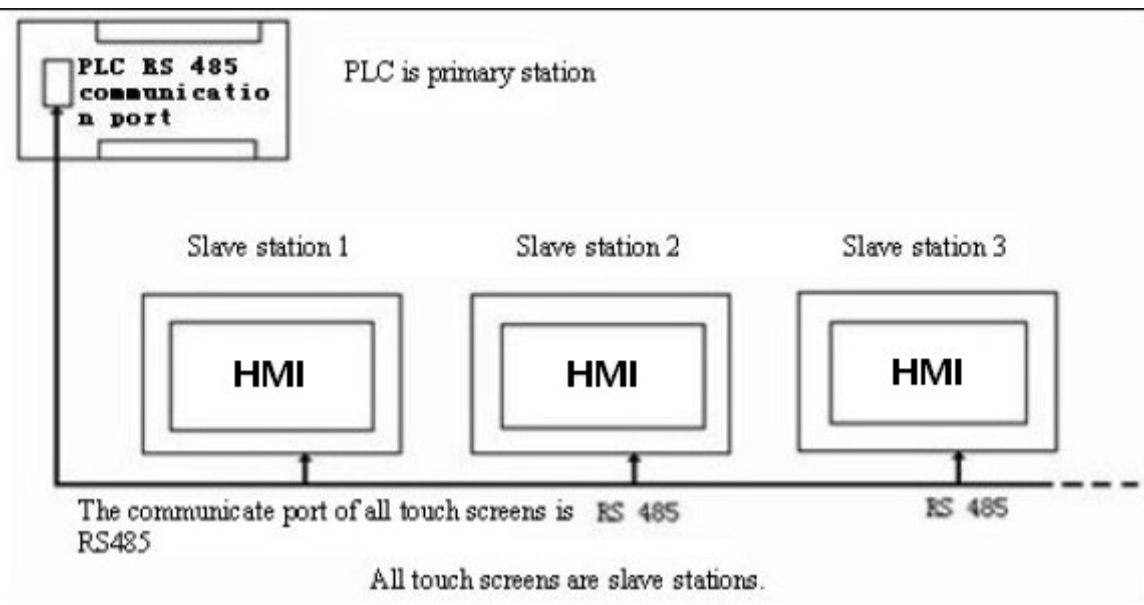

Figure 8-4 Sketch map of "One machine with multiple machines" when PLC(RS485) is Master station
2. The communication port of the PLC connected is RS485, connection method is as shown in Figure 8-4: